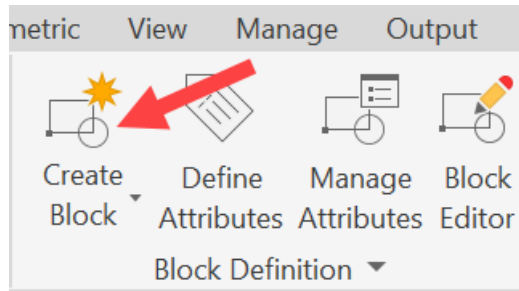

Figure 12.3: The Create Block (BLOCK) command on the Block Definition panel
2. Click on **Create Block (BLOCK)** on the **Block Definition** panel, as shown in *Figure 12.3*.